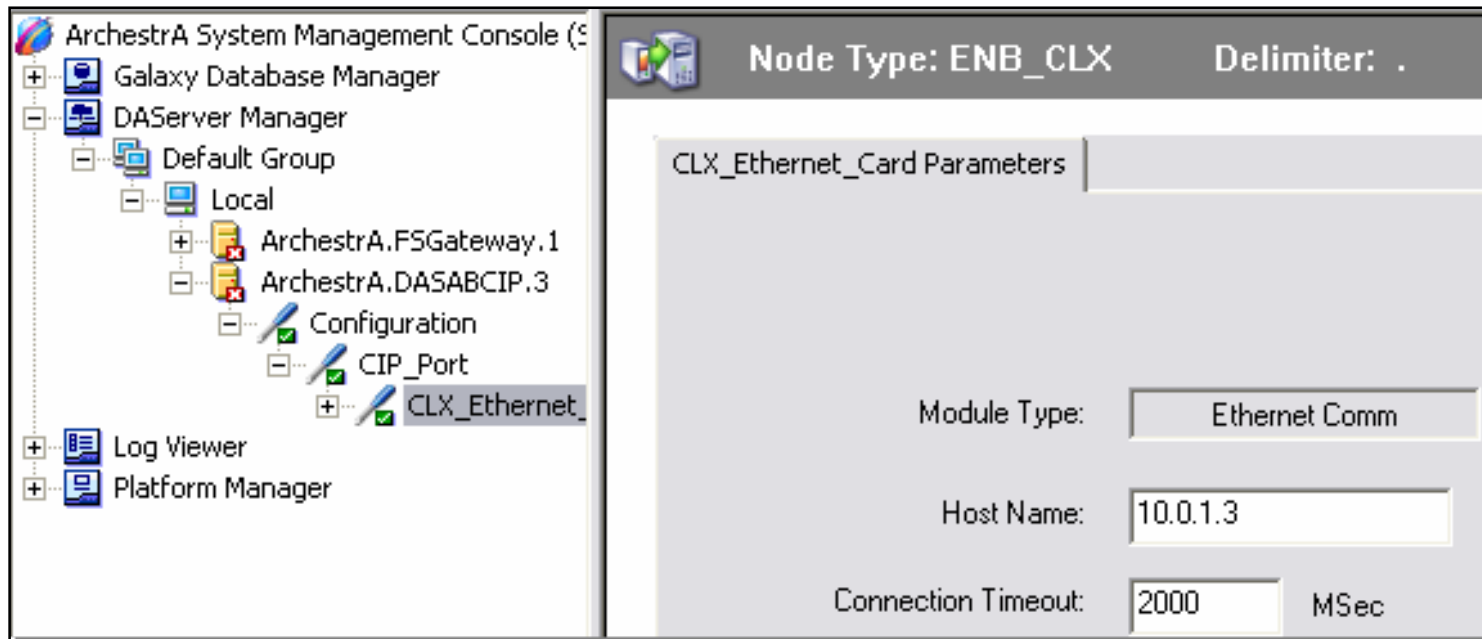

Figure 21: IP Address in Host Name Field
4. Expand the configuration to **CLX_Ethernet_Card Parameters** and enter the IP address of your ControlLogix PLC in the **Host name** field (Figure 21 below).